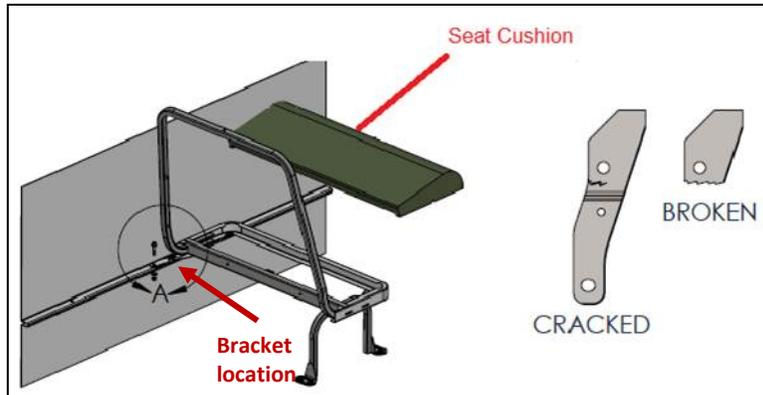

Figure 2: Bracket Location and Examples
3. Remove the lower seat cushion, retain for reinstallation. See **Figure 2**.
NOTE: Seats may have intact, cracked, or completely broken brackets. See **Figure 2**.
NOTE: The steps below are performed only when the original bracket is completely broken. See Figure 2.